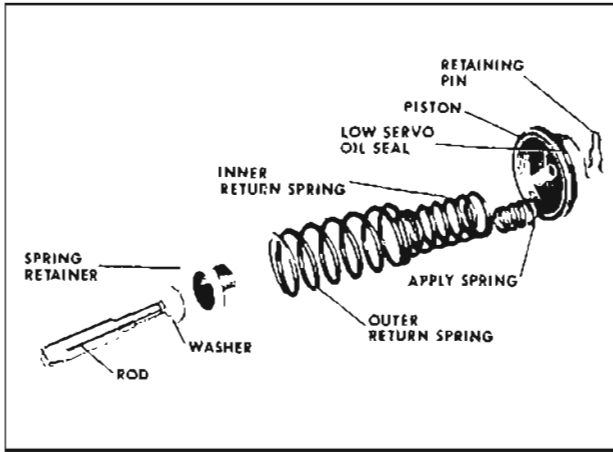
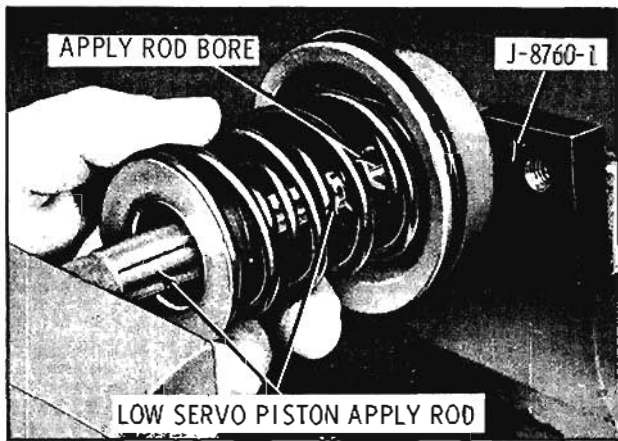

Fig. 6-318 Low Servo Piston Assembly (Exploded)
Fig. 6-319 Assembly of Low Servo Piston
3. After vise has been released, remove piston low servo supply piston spring inner, outer return springs, spring retainer, washer and piston apply rod. (Fig. 6-318)
1. Assemble the inner and outer return springs into the piston. Install spring retainer. (Fig. 6-318) Install this assembly into the vise as shown in Fig. 6-319.